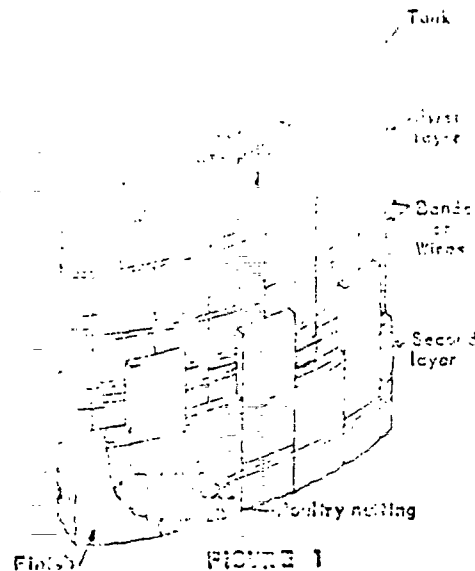

FIGURE 1
3.2 The first or inner layer of curved block, or corner of block insulation, Code 103, shall be applied with joints tightly butted and lateral joints staggered. Bands shall be placed over blocks approximately 1 inch from each end of each block, thus providing four bands for each 20-inch length of insulation. In the second or outer layer, Code 101, shall be applied with joints staggered with the first layer or end joints butted together. Bands shall be placed over the first layer of block approximately 1 inch from each end of each block, thus providing four bands for each 20-inch length of insulation. All chipped edges, cracks or imperfections shall be filled and smoothed with Insulation Cement, Code 102. Over the insulation and bands apply the second layer, Code 101, drawn tight and laced together. See Figure 1.